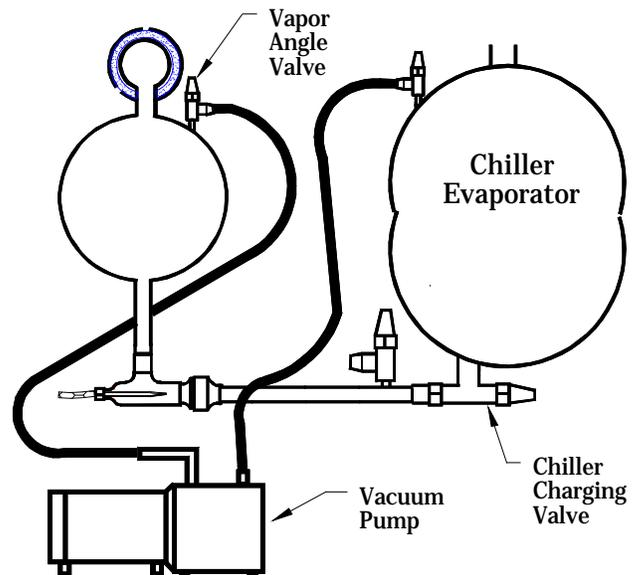

Figure 11. - Evacuating Chiller
3. Connect vacuum pump between evaporator and containment vessel (see Figure 11).